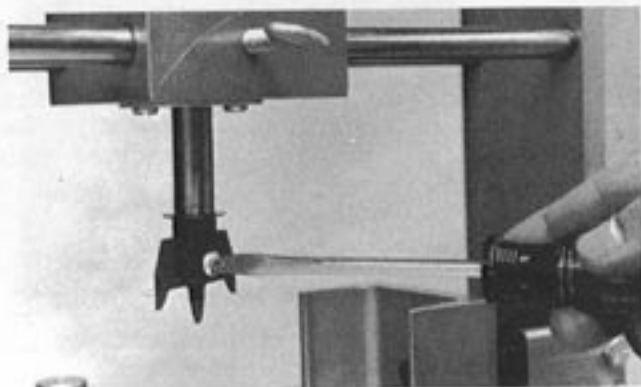

Figure 7 — Tightening Retaining Screw
6.02 Slide the blade into the slot in the lower end of the vertical shaft and tighten the retaining screw. See Figure 7.